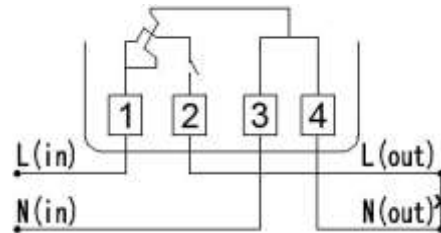
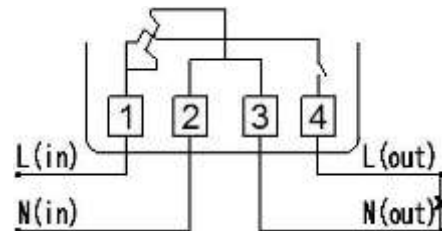

Figure 4 (LLNN) Main connection wires and auxiliary terminal
Figure 5 (LNNL) Main connection wires and auxiliary terminal **Notice** : The accuracy connection method reference to the terminal tab.
7.5 The following is the connection diagrams, figure 4 and figure 5.